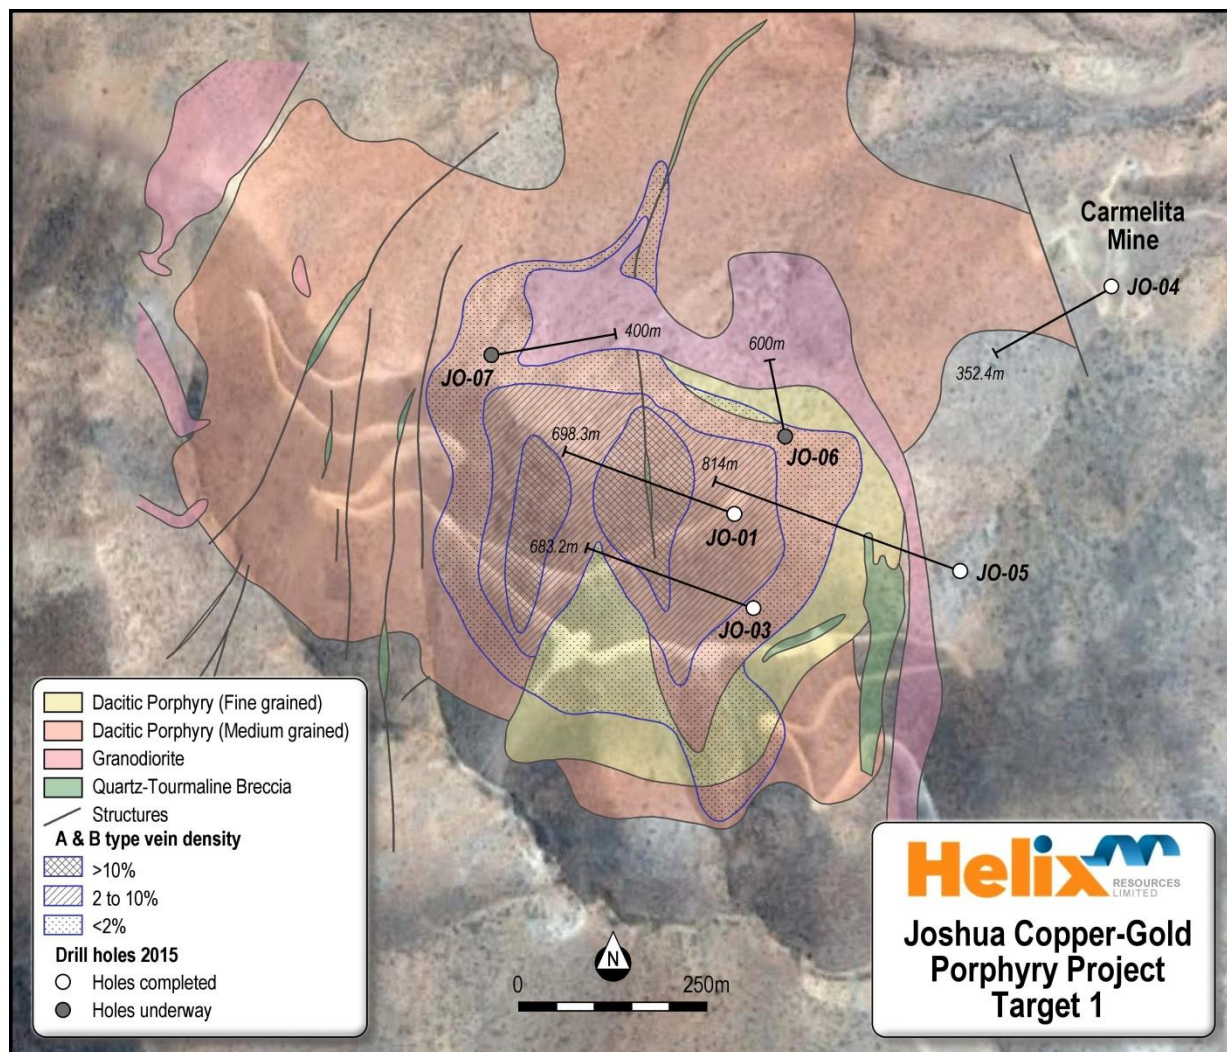

Figure 1: The 2015 Drill hole traces to date (black) on Joshua IP chargeability cross-section
- **Refer to Figure 1 for the location of the 6 drill holes.**
Hole 1, J0-01, was drilled west from the top of Target 1 to a depth of 695.25m (refer Figure 1).